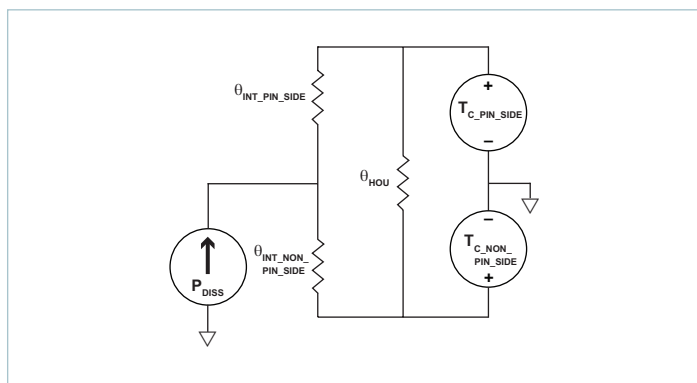
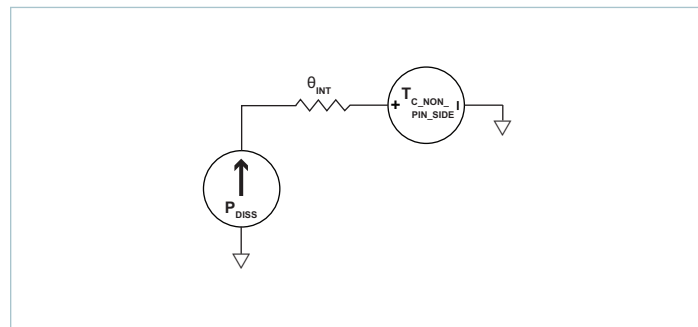

Figure 21 — Double-sided cooling thermal model
Figure 22 — Single-sided cooling thermal model
The VIA package provides effective conduction cooling from either of the two module surfaces. Heat may be removed from the pin-side surface, the non-pin-side surface or both. The extent to which these two surfaces are cooled is a key component for determining the maximum power that can be processed by a PFM, as can be seen from specified thermal operating area on Page 5. Since the PFM has a maximum internal temperature rating, it is necessary to estimate this internal temperature based on a system-level thermal solution. To this purpose, it is helpful to simplify the thermal solution into a roughly equivalent circuit where power dissipation is modeled as a current source, isothermal surface temperatures are represented as voltage sources and the thermal resistances are represented as resistors. Figure 21 shows the "thermal circuit" for the PFM in a VIA package.
- Single-side cooling: the model of Figure 21 can be simplified by calculating the parallel resistor network and using one simple thermal resistance number and the internal power dissipation curves; an example for non-pin-side cooling only is shown in Figure 22.